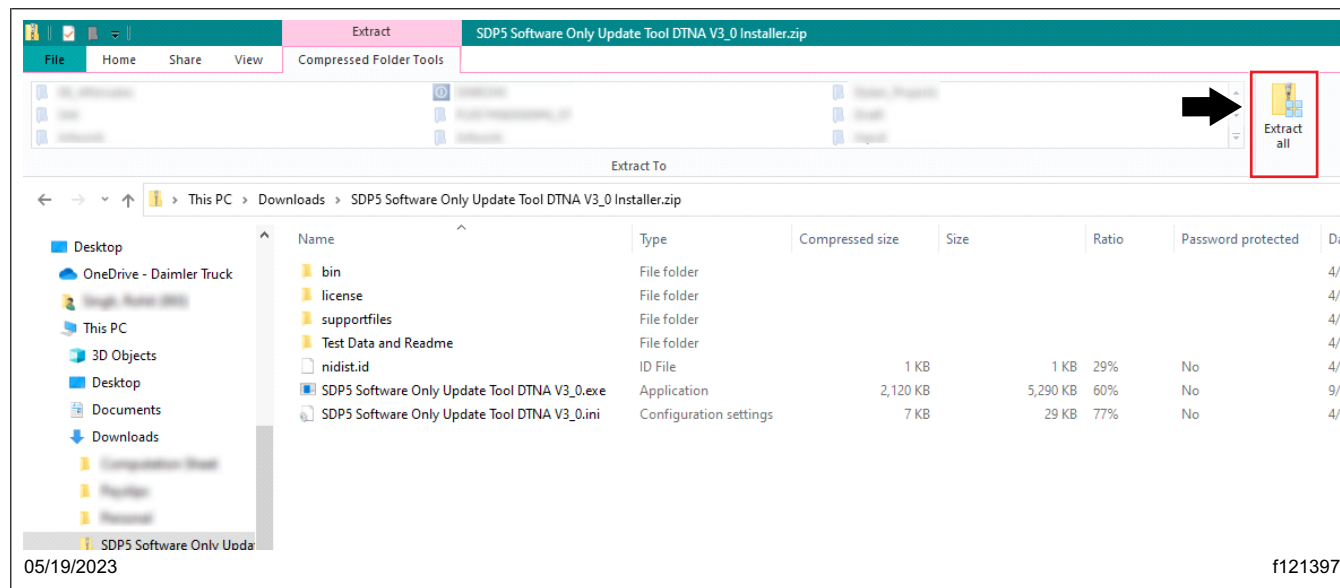

Fig. 4, Selecting Extract All
6. Select 'Extract all' in the top-right of the window to extract all the contents from the zip file. See Fig. 4.